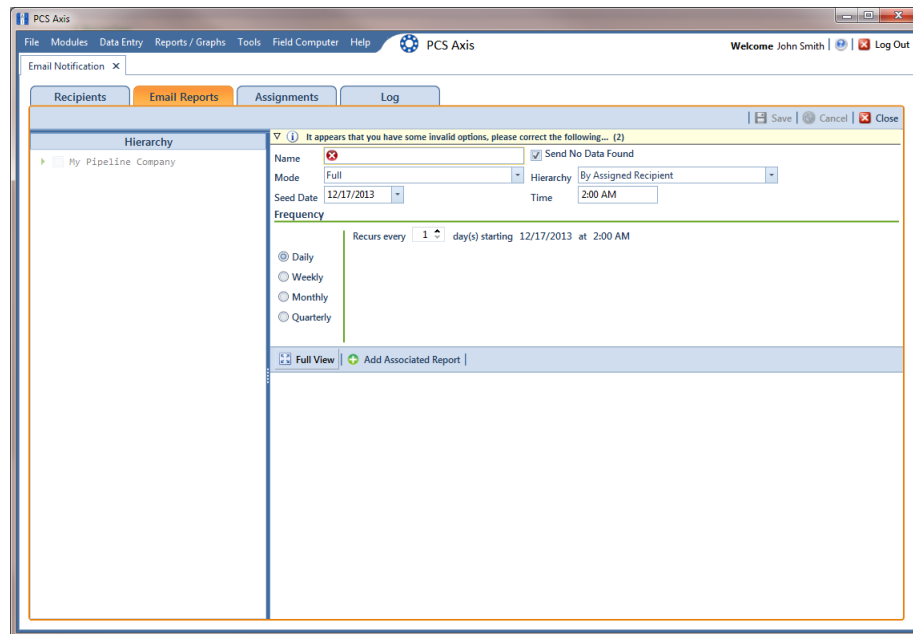

Figure 12-7. Email Reports
- 2 Click **Email Reports** Email Reports, then click + **Add** (Figure 12-7).
- 3 Type a name for the email report in the **Name** field. Fields requiring information include a  icon, such as *Name* shown in the previous example (Figure 12-7, page 580).